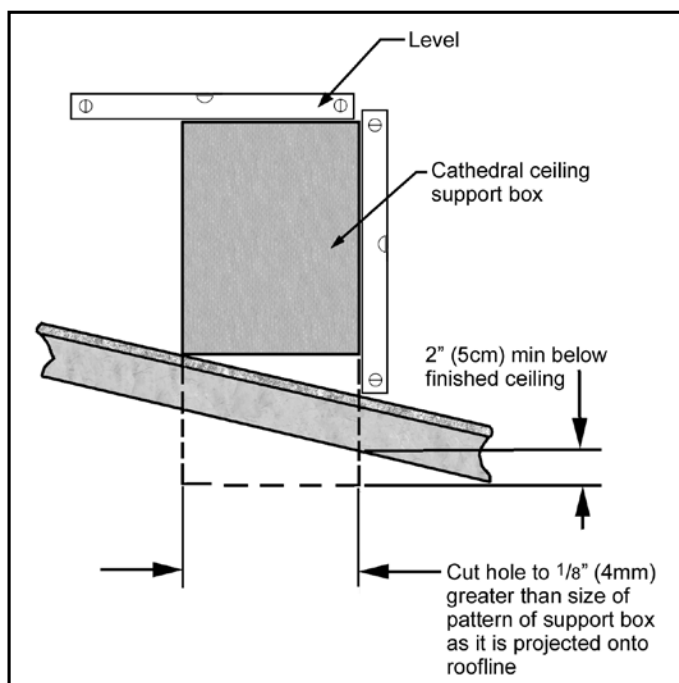

Figure 35: Cathedral Ceiling Support Box Leveling.
4. Lower the "Support Box" through the hole in the roof until the bottom of the "Support Box" protrudes at least 2 inches (5 cm) below the ceiling. Align the "Support Box" both vertically and horizontally with a level as shown in Figure 35. Temporarily tack the "Support Box" in the place through the inside walls and into the roof sheathing.